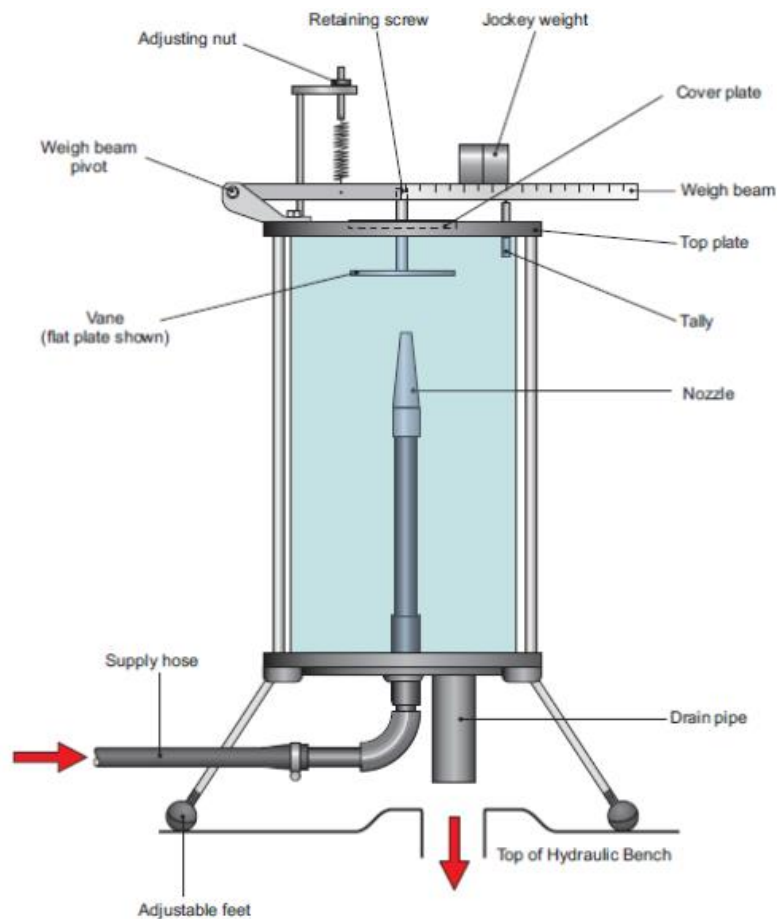

Figure 9. Lay out of the jets on vanes experimental set up
1. Fix the given vane and add dead weight, note down the forces, note down the time, calculate the flow speed, discharge, and coefficient of impact vanes, shown in figure 9.